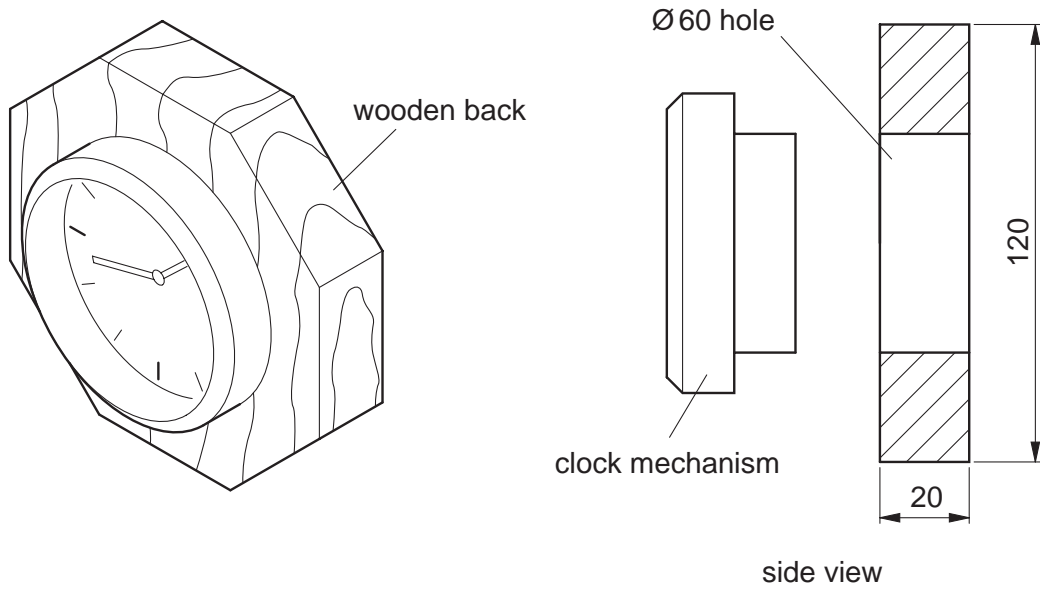

Fig. 1
- 1 Fig. 1 shows a clock that will be hung on a wall. The clock has a mechanism that fits into a hole in the wooden back.